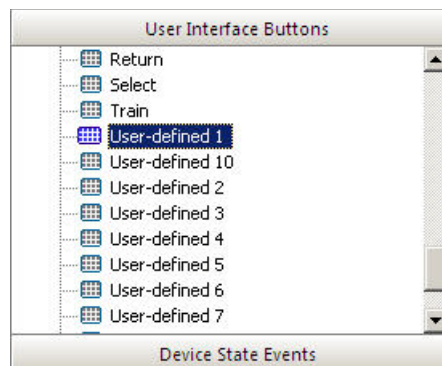

FIG. 223 CodeBuilder - User Interface Buttons tab - User Defined1 Selected
2. In the *User Interface Buttons* tab, select a button. This is the button that you want to use to trigger the macro (FIG. 223).